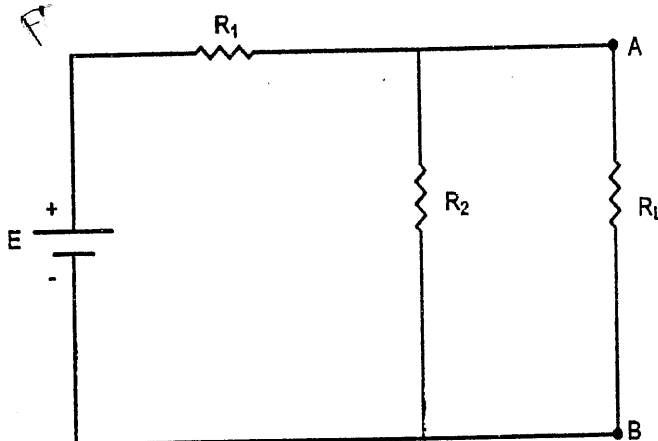

FIG. 1.109 : ORIGINAL NETWORK
- Consider the Network shown in Fig. 1.109 and we want to find current flowing through R_L .